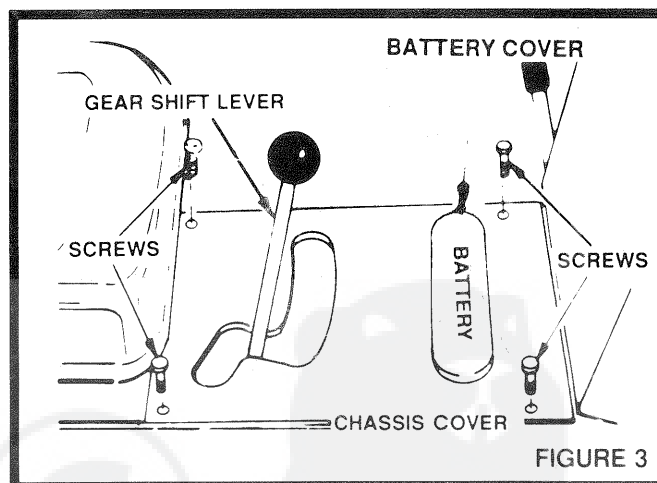

FIGURE 3
- a. Remove the four (4) Chassis Cover Screws (Fig. 3) and the Gear Shift Lever Knob (Fig. 3). Remove Chassis Cover.
- b. Screw the Knob onto the Gear Shift Lever as shown in Fig. 3.
3. Place Gear Shift Lever in "N" position (Fig. 3).
3. Move Gear Shift Lever to "1ST" Gear (Fig. 3).
For pushing or towing your tractor, place Gear Shift Lever in "N" position (Fig. 3). **NOTE: DO NOT TOW YOUR TRACTOR FASTER THAN 9,6 kmh (6 mph).**
1. Remove Chassis Cover (Fig. 3).